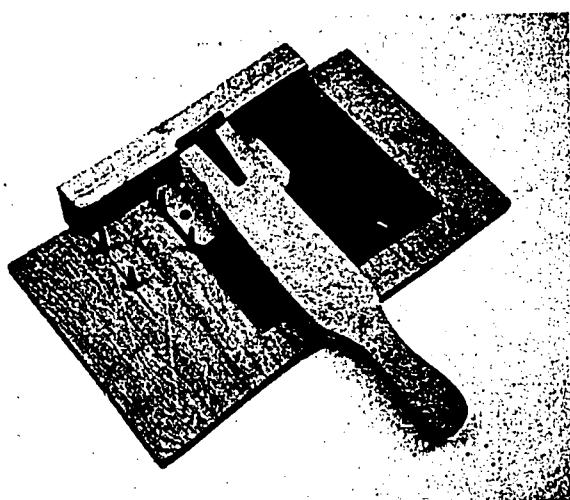
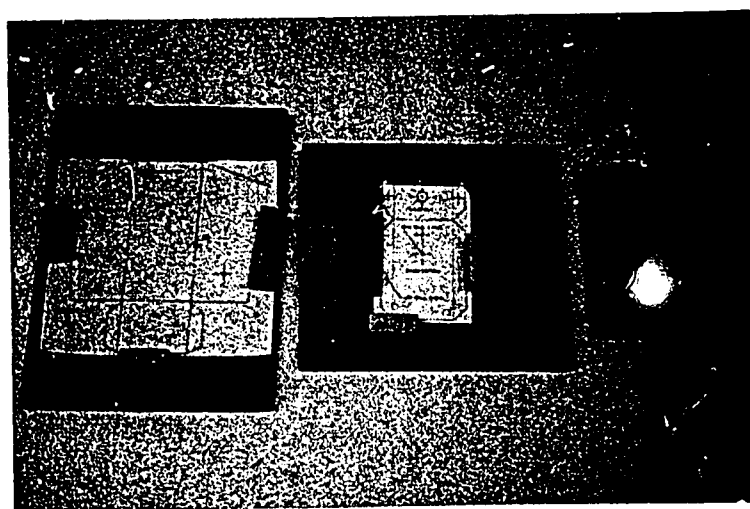

Fig. 149-3. Holding Blanks for Drilling Large Holes
Fig. 149-4. Temporary Fixtures for Drilling Small Holes
*These are $\frac{3}{4}$ " x 6" x 18" scraps with $\frac{3}{4}$ " x $\frac{3}{4}$ " wood strips glued and screwed to the face forming the outline of each component. See Fig. 149-4. These must be made before class-time.
ture 149-1 to securely hold the metal blanks. See Fig. 149-3. The fixture may be used to gang-drill 10 to 20 blanks at one time or may be modified to drill only one blank at a time. Drill near the handle of the fixture to prevent buckling. Put scrap metal, hardboard, or scrap hardwood under the blank to prevent a burr on the bottom blank. Move the scrap material after each hole has been drilled so that you do not drill into an existing hole. Other fixtures, Fig. 149-4, are used for drilling smaller holes in these and other metal components. If a burr is formed, it may be removed by using an electric drill with a sanding disc. If a metal punch is available, it should be used to punch as many of the holes as possible.
5. Make the three fixtures as shown (see Fig. 149-4), with the inside size being exactly the size of the component. The fixtures can be made of available scrap that is reasonably strong. One to 15 components can be held in the fixture for drilling with an electric hand drill. Be sure students hold the drill perpendicular to the metal, since any slant will result in inaccuracy. Be sure to clamp all sheet metal components securely so that they do not "spin" and endanger the students. A drill press will do more accurate work if it is available. The large holes must be drilled with the drill press.